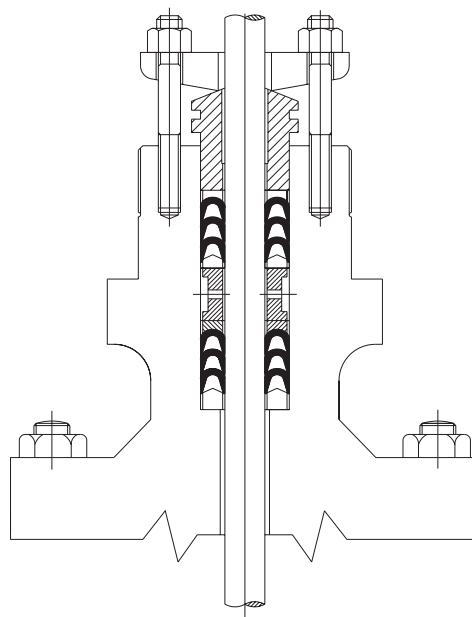

FIG.3
**For packing arrangement, please refer to Fig. 3.**